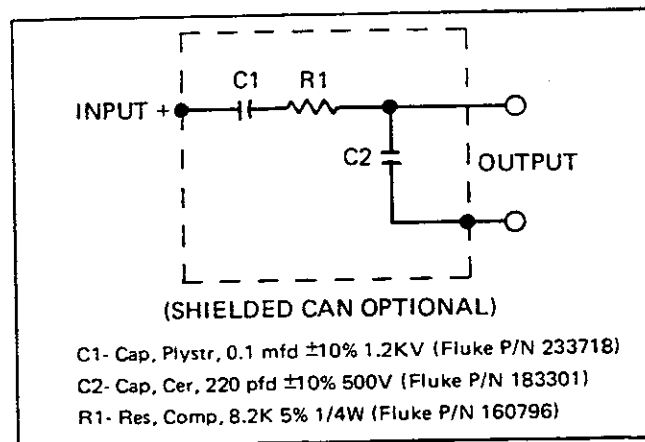

Figure 4-5. Low Pass Filter Network Schematic
1. Construct the low pass filter network as shown in Figure 4-5, Low Pass Filter Network Schematic, or purchase the equivalent commercially. The specifications: BP of DC to 100 kHz (3 dB down at 100 kHz), noise level of 5 μV or less, DC blocking of up to 1260V. The shielded environment for the filter is optional but recommended for high noise areas.